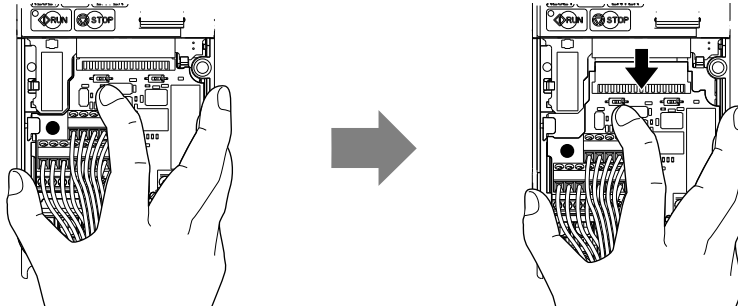

Figure 7.7 Removing the Terminal Board
4. While holding down the installation pin from step 3, slide the removable terminal block in the direction of the arrows in Figure 7.7.